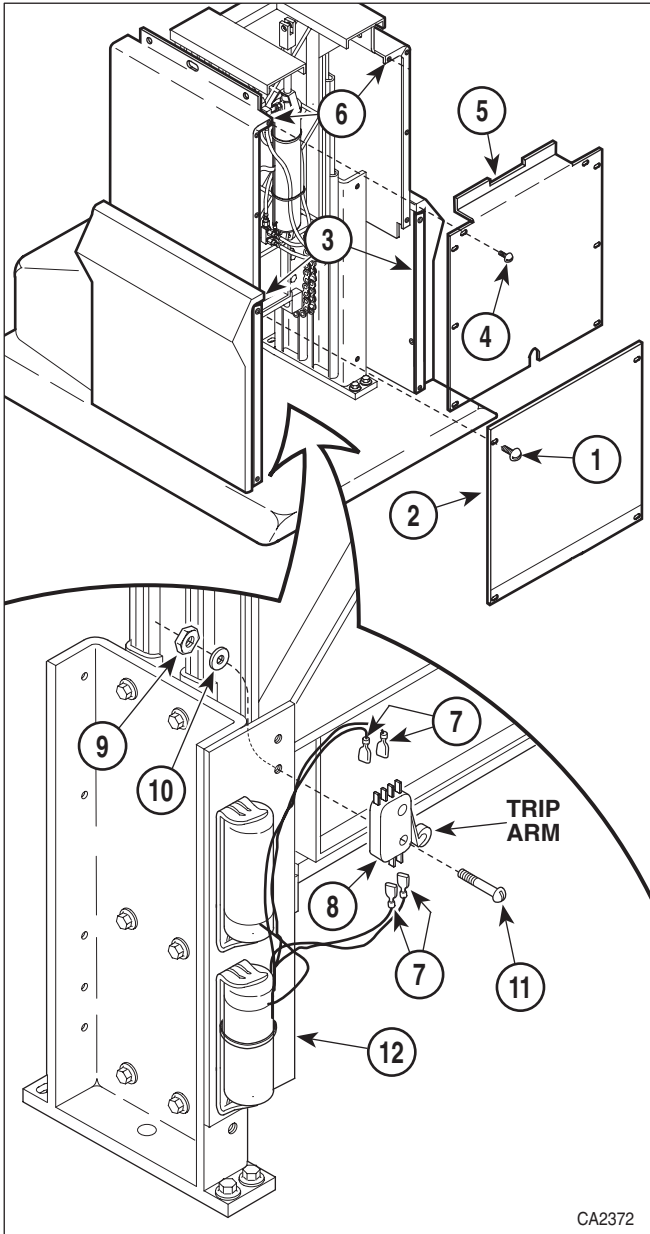

Figure 4-31. Base Down Limit Switch Removal / Installation / Adjustment
- (1) Raise FOOT UP function all the way up.
- (2) Unplug table power cord from outlet.
- (3) Remove four screws (1, Figure 4-31) and front outer shroud (2) from left and right hand outer shrouds (3).
- (4) Remove eight screws (4) and front inner shroud (5) from left and right hand inner shrouds (6).
- (5) Tag and disconnect four wires (7) from termi-